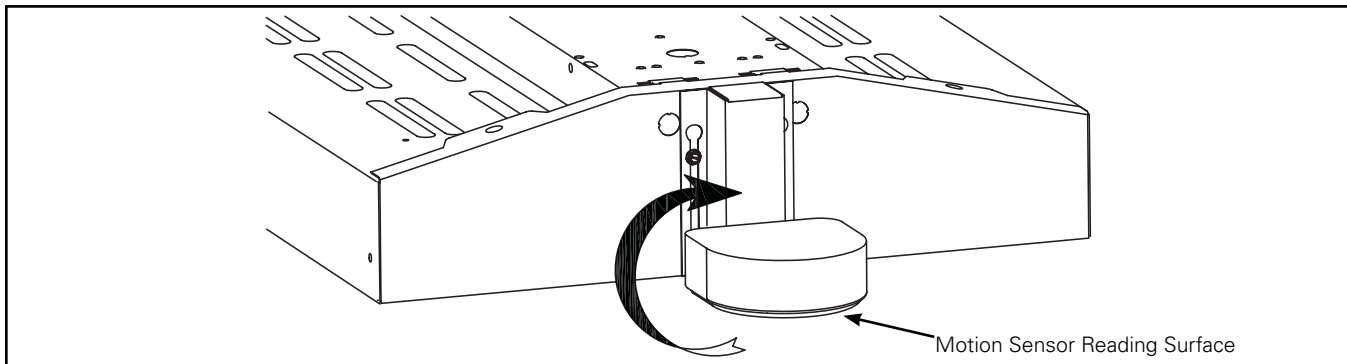

Figure 2.
2. Secure bracket by tightening screws on fixture endplate (Figure 2.).
3. Rotate motion sensor reading surface (LENS) so that it is parallel with floor (Figure 2.).